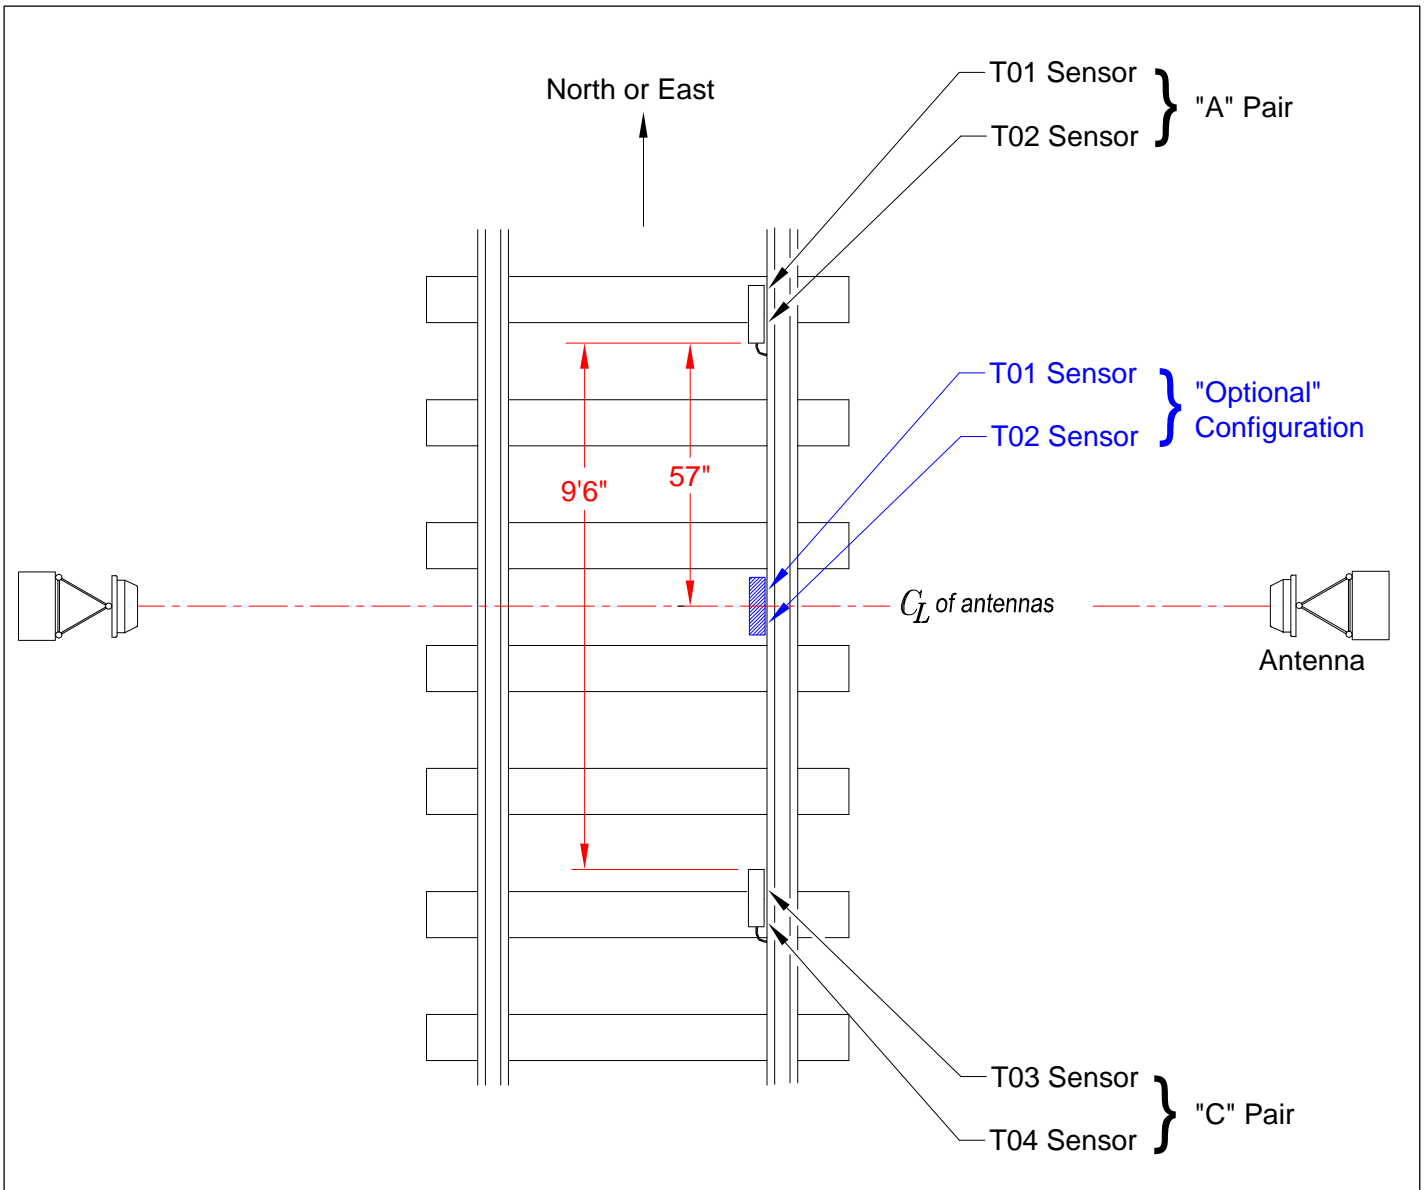
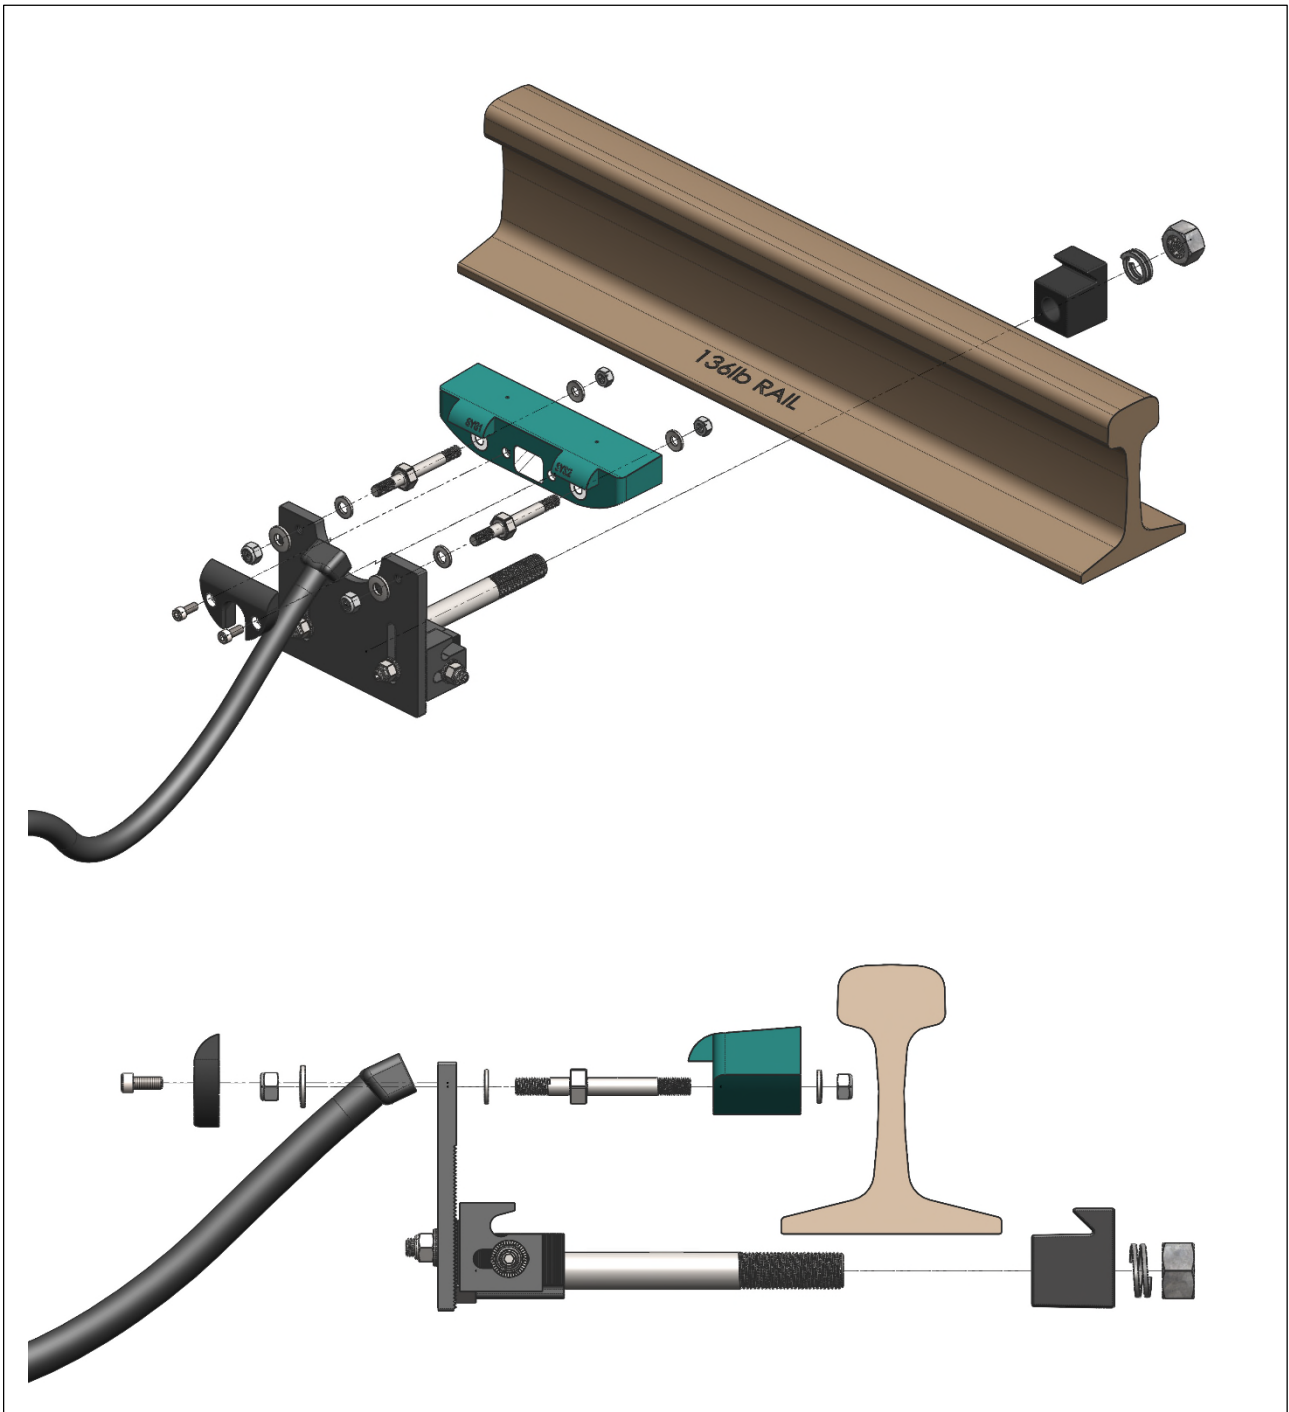

Figure 1: Typical Track Layout
Figure 2: Frauscher Assembly Exploded Views
1. Mount Frauscher wheel detectors to the rail. See Figure 1 for a typical site layout. See Figure 2 for an exploded view of the clamp assembly. See Figure 3 for alignment dimensions and torque specifications.